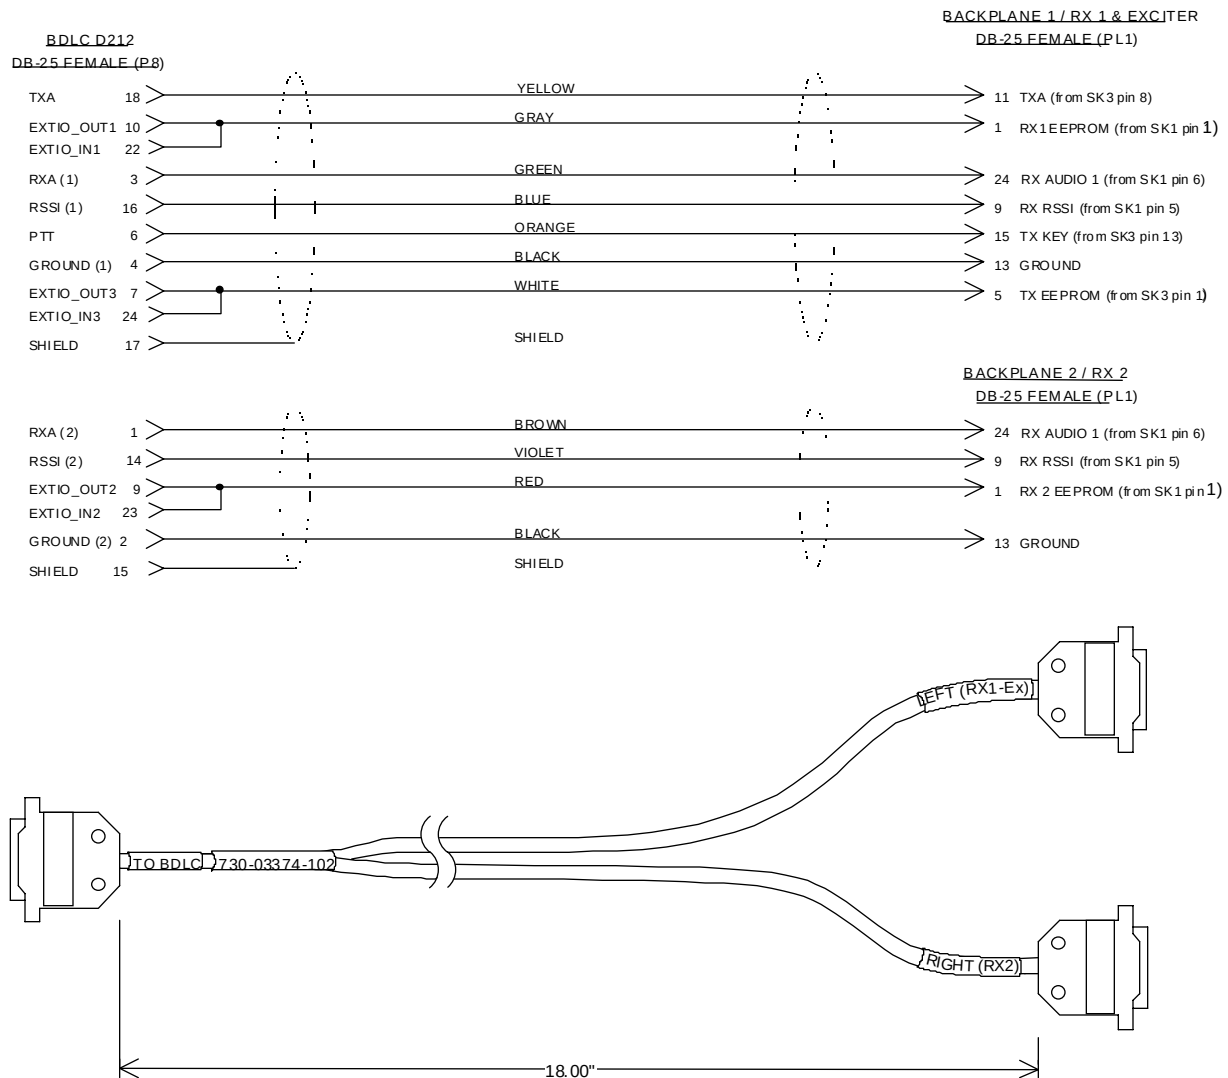

Figure 15 - BDLCPD Y cable and pinout
- EXT RADIO/TEST - connects to the Radio assembly (see Figure 15)